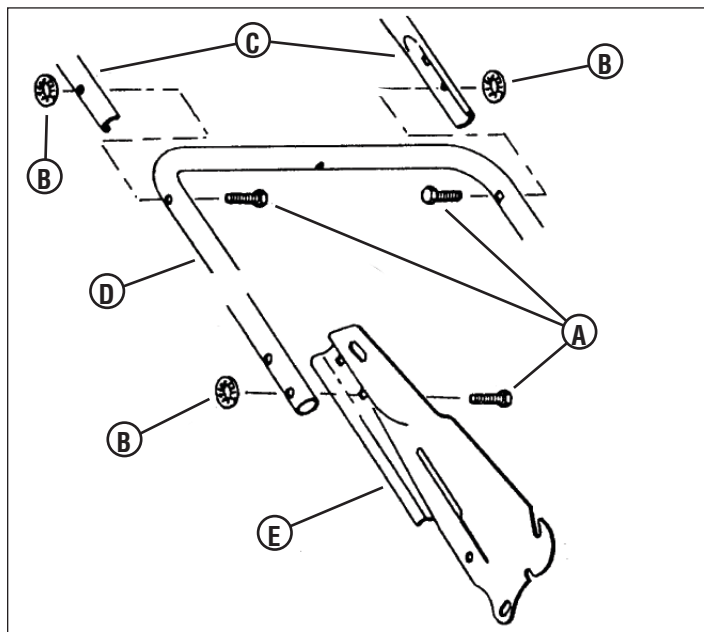

Figure 1
2. Remove the four hex cap screws (A, Figure 1) and bolt retainers (B) that secure the upper handle (C), middle handle (D), and lower handle brackets (E) together. Discard this hardware, as it is for packaging purposes only.